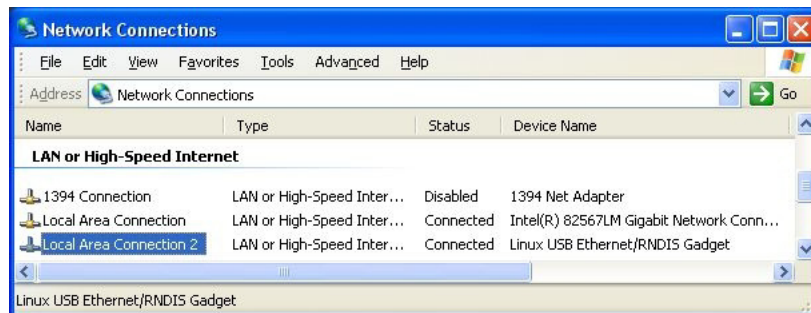

Figure 15. Network Connections Window
14. Open the Network Connections window to verify that the installation was successful (see Figure 15). If “Linux USB Ethernet/RNDIS Gadget” is listed in the Device Name column, the USB driver has been successfully installed.